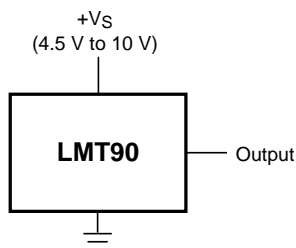

Figure 14. Full-Range Centigrade Temperature Sensor (–40°C to 125°C)
Unless otherwise noted, these specifications apply for $V_S = 5 V_{DC}$ and $I_{LOAD} = 0.5 \mu A$, in the circuit of Figure 14. All limits $T_A = T_J = 25^\circ C$, unless otherwise noted.
- (1) Limits are specific to TI's AOQL (Average Outgoing Quality Level).
- (2) Accuracy is defined as the error between the output voltage and $10 \text{ mV}/^\circ C$ times the device's case temperature plus 500 mV, at specified conditions of voltage, current, and temperature (expressed in °C).
- (3) Non-linearity is defined as the deviation of the output-voltage-versus-temperature curve from the best-fit straight line, over the device's rated temperature range.
- (4) Regulation is measured at constant junction temperature, using pulse testing with a low duty cycle. Changes in output due to heating effects can be computed by multiplying the internal dissipation by the thermal resistance.
- (5) Quiescent current is defined in the circuit of Figure 14.
- (6) For best long-term stability, any precision circuit will give best results if the unit is aged at a warm temperature, and/or temperature cycled for at least 46 hours before long-term life test begins. This is especially true when a small (Surface-Mount) part is wave-soldered; allow time for stress relaxation to occur. The majority of the drift will occur in the first 1000 hours at elevated temperatures. The drift after 1000 hours will not continue at the first 1000 hour rate.